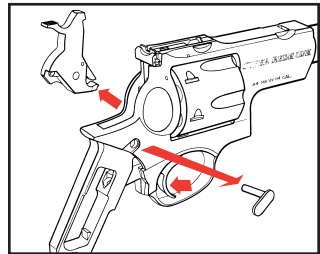

Figure 6
5. Pull trigger and remove hammer pivot while holding trigger in a rearward position. Lift hammer out of the top of the frame while trigger is held in a rearward position (See Figure 6).